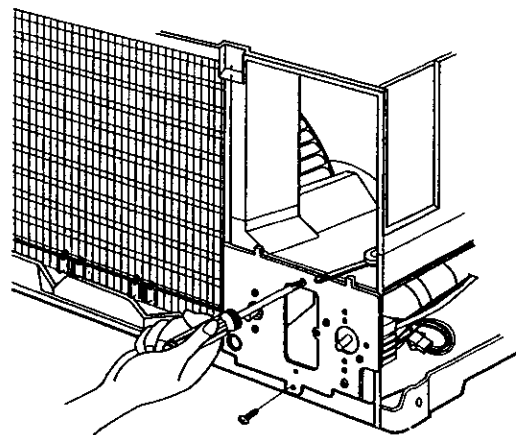

Figure 23
7. Re-install the components by referring to the removal procedure, above. (See Figure 23) (Refer to the circuit diagram found on page 49 and 21 in this manual and on the control box.)